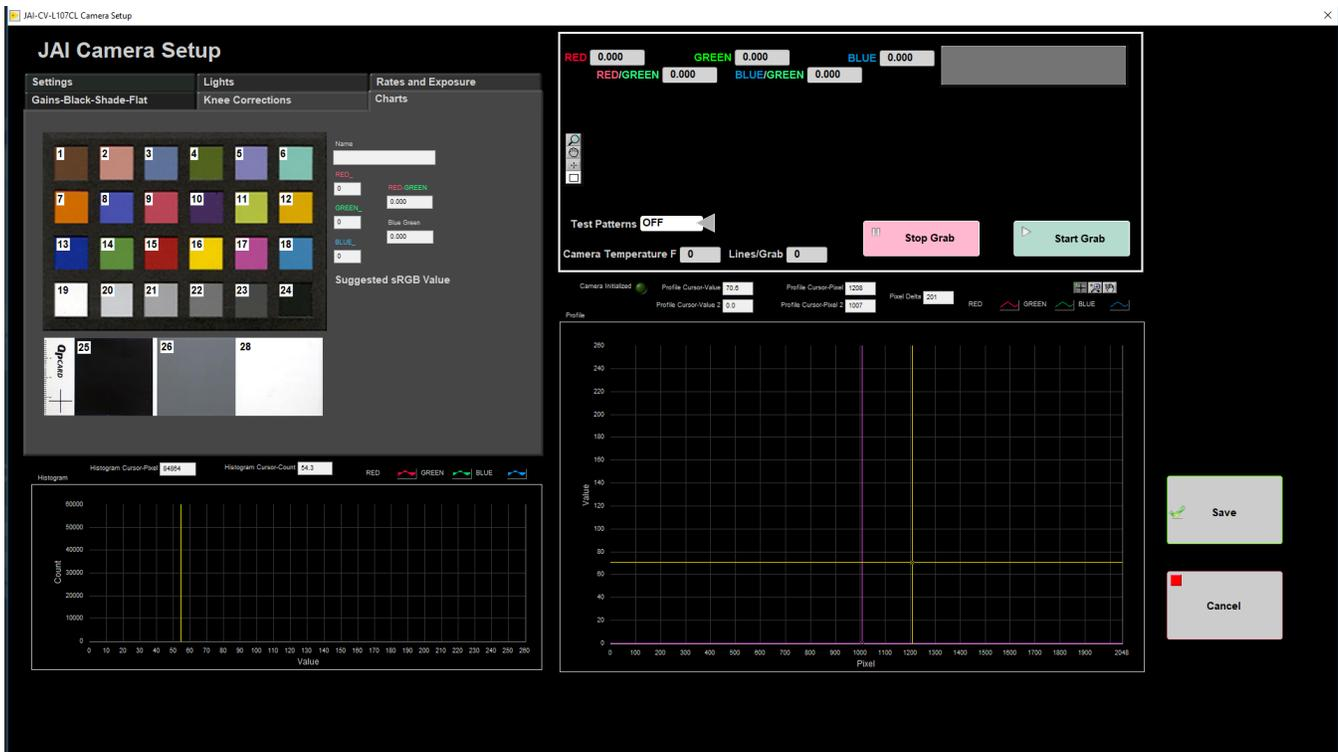

Figure 26. Charts Window
4. Click on the **Charts** tab (Figure 26). Click on a color box and the manufacturer provided red, green, and blue values will populate. This provides a way to compare expected values with measured values and allows the user to make additional adjustments.